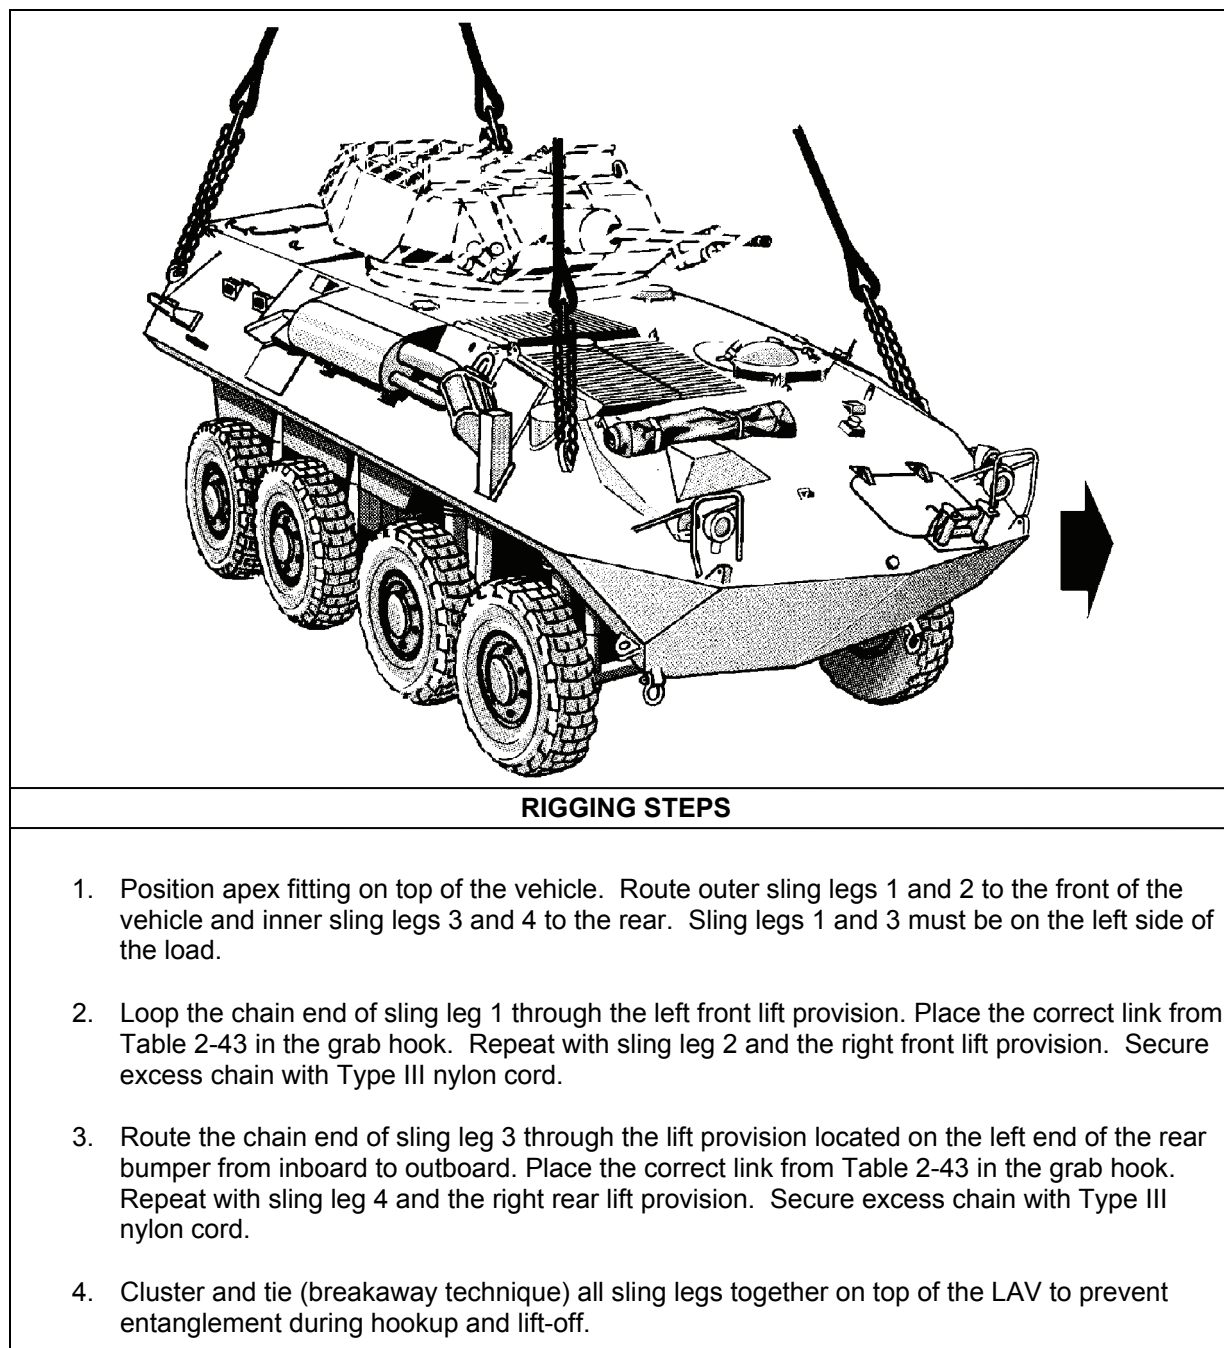

Figure 2-42. Light Armored Vehicle
- **Rigging.** Rig the load according to the steps in Figure 2-42.